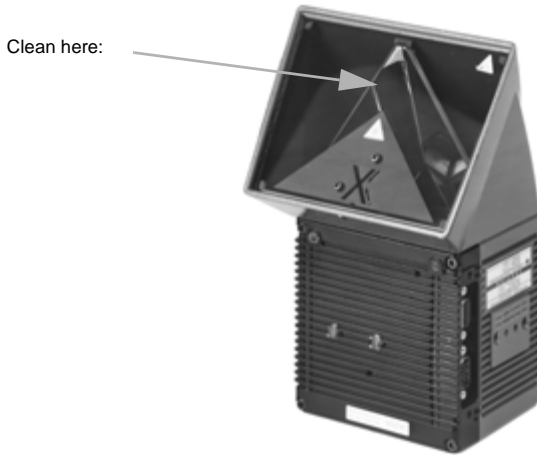

Figure 6.1: Cleaning the reading window
- Clean the reading window in regular intervals with a mild detergent without powder additives, e.g. an antistatic window cleaning detergent. Figure 6.1 shows the areas to be cleaned.